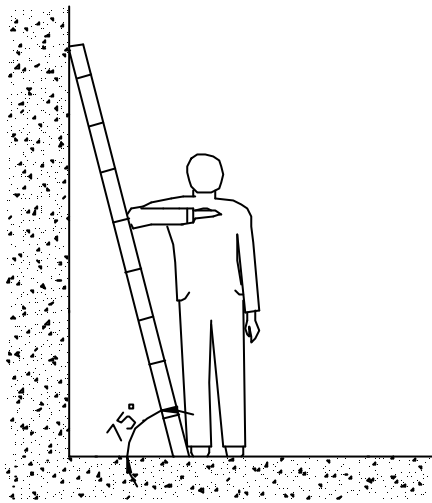

Figure 2 The angle at which the ladder should be leaned
- When operating under the conditions that the leaning distance of the ladder is over 5measurement, and that of the erected ladder with two-foot is over 3meters, and other dangerous environment, the ladder should be held by somebody or relevant safe measures should be effected. The A-shaped ladder should be completely stretched for using, as shown in Figure 2 below.